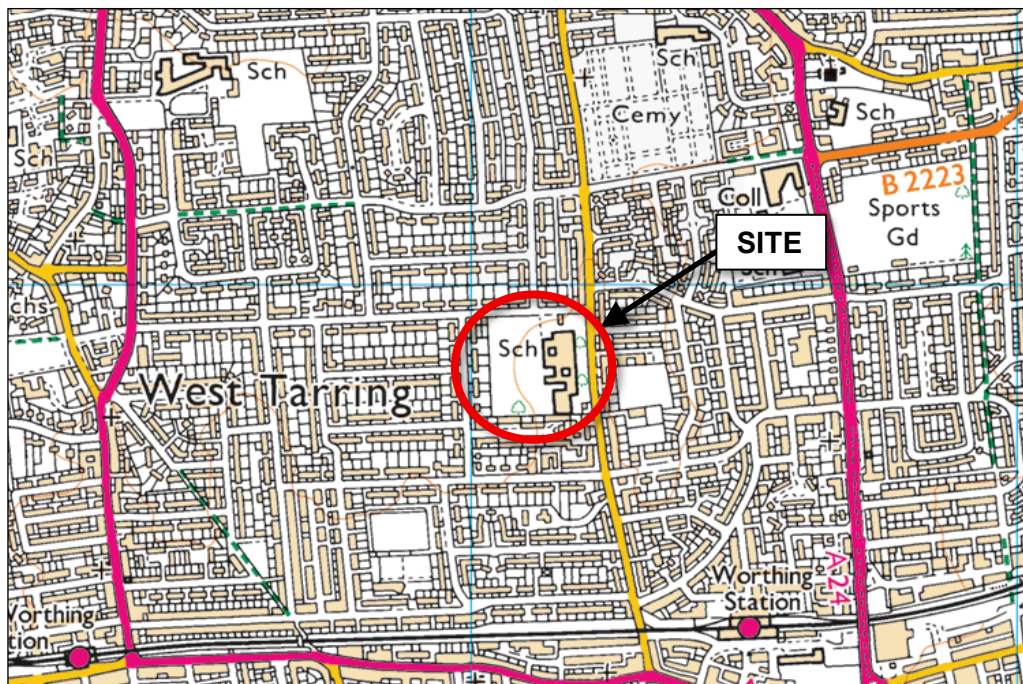

Figure 1.1 Location map
- 2.1 As can be seen in the location map in Figure 1.1, Worthing High School is approximately 1.6km north-west of the main shopping centre, 590m northwest of Worthing station and approximately 1km north-east of West Worthing station. The school is set in extensive grounds and one large playing field and is bounded on all sides by predominantly residential properties which characterise this part of the town.